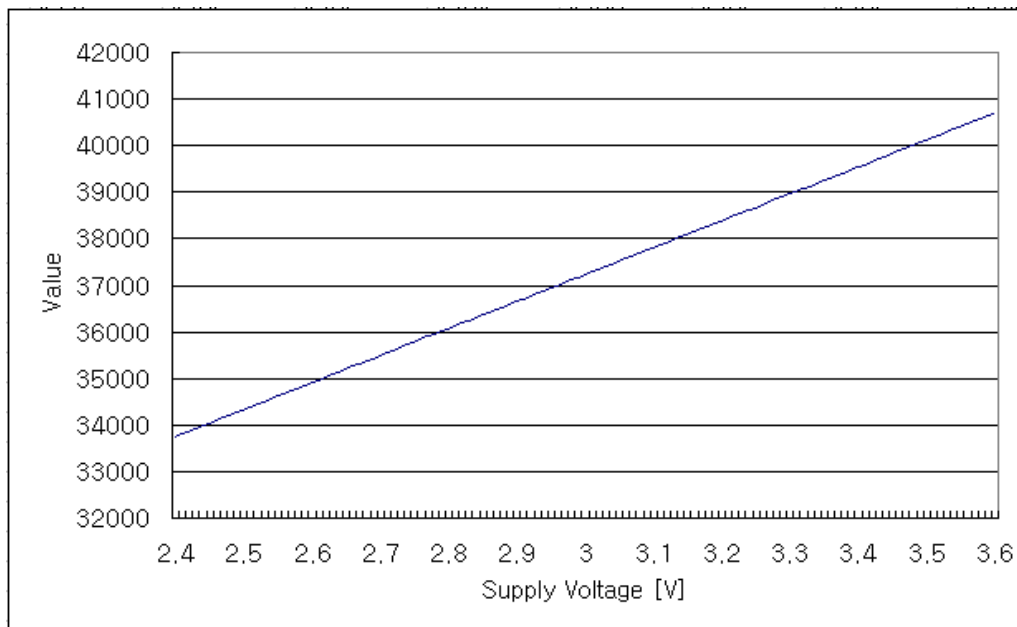

**Figure 24. Temperature Sensor Characteristics**
**Note:** Y axis of [Figure 24] represents 16-bit value. The valid output of the temperature sensor lies in the small portion of 16-bit range. To get the valid data, it is recommended to use ADC calibration. To reduce offset between MG245X chips, please refer to 'MG245X Offset Cancellation of Temperature Sensor Programming Guide'.